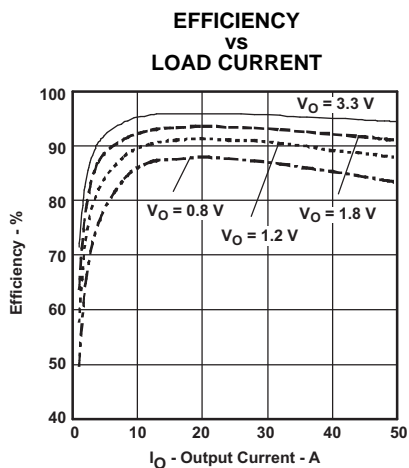
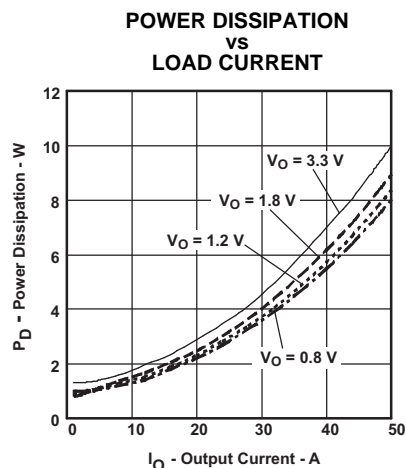

Figure 6.
Figure 7.
(3) The electrical characteristic data has been developed from actual products tested at 25°C. This data is considered typical for the converter. Applies to Figure 6, and Figure 7.